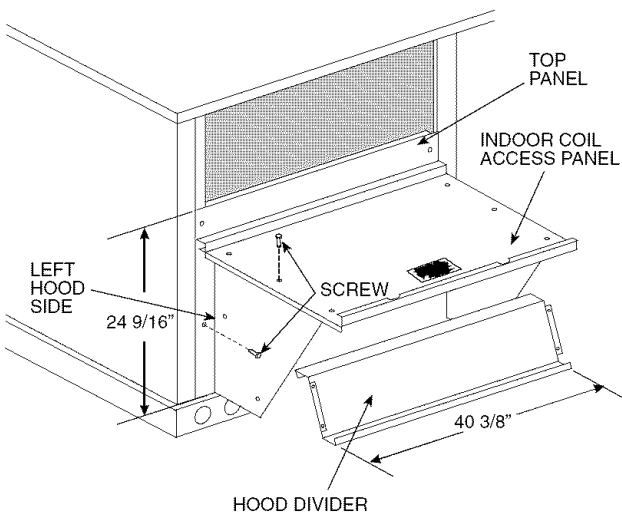

Fig. 24 — Outdoor-Air Hood Construction
4. Swing out indoor coil access panel and insert the hood sides under the panel (hood top). Use the screws provided to attach the hood sides to the hood top. Use screws provided to attach the hood sides to the unit. See Fig. 24.
6. Insert the hood divider between the hood sides. See Fig. 24 and 25. Secure hood divider with 2 screws on each hood side. The hood divider is also used as the bottom filter rack for the aluminum filter.